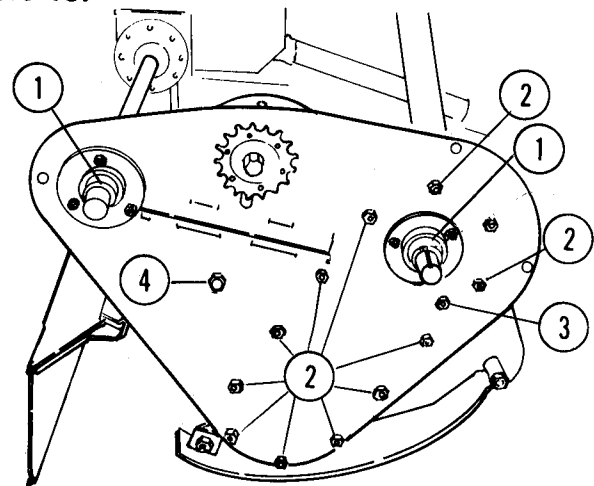

Fig. 19 — Cover Plate Assembly
5. Loosen set screws on bearing locking collars, Figure 19.
6. With hammer and punch, tap bearing locking collars counter-clockwise until they come loose of bearing, Figure 19.
7. Remove the twelve 3/8" locknuts holding the outer cover assembly, Figure 19.
8. Remove the 5/16" locknut retaining the internal paddle assembly and the 1/2" nut holding the spacer tube assembly, Figures 19 and 20.